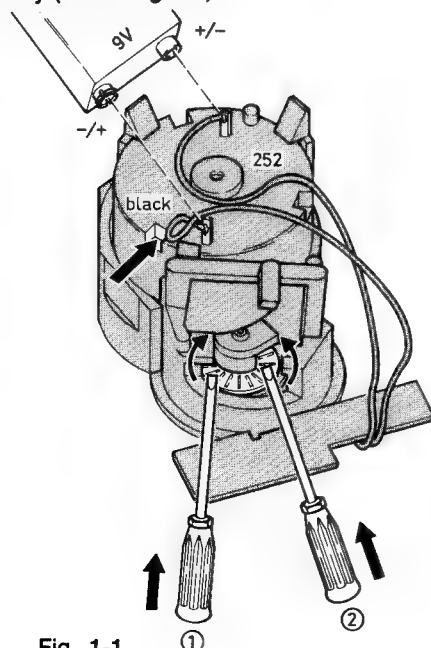

Fig. 1-1
If not: Remove the little connector print from the threading motor holder Fig. 1-1. Now you can see a crank drive pos. 259.
- ① Crank drive has to be turned clockwise 4x (for threading in).
- ② Crank drive has to be turned counterclockwise ~50x until lift is in eject position or by means of 9 Volt battery (threading out).